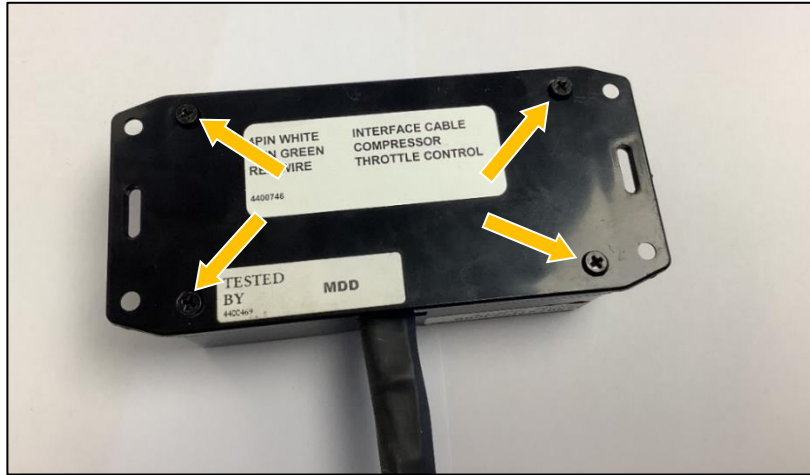

Figure 1
- Remove the 4 corner screws from the back of the control box (Figure 1).
- Replace the 4 corner screws in the back cover (Figure 1).